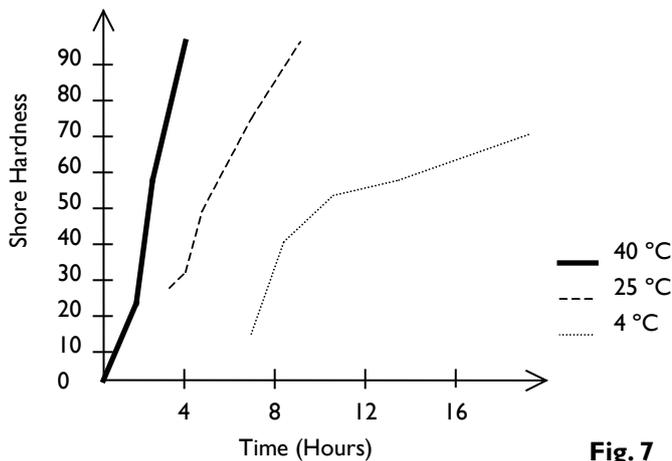

Fig. 7
Remove the entry ⑥, spread the cable cores out for the compound packing. Pack the compound between the cores shown. See notes below and Fig. 7 for compound preparation.
Allow the compound to cure. (See Fig. 7 for Curing Times). Untighten the sub-assembly ① and ② from the entry ⑥ to enable inspection. The rubber pot ⑤ may be removed for inspection to ensure that the packing is satisfactory. Add further compound if necessary.